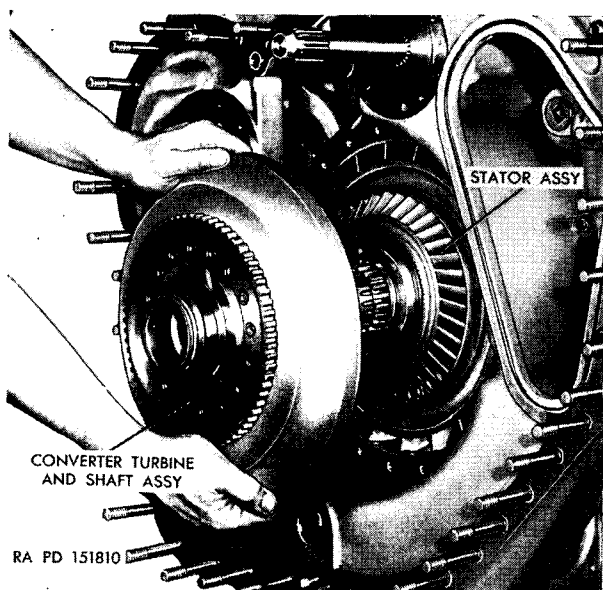
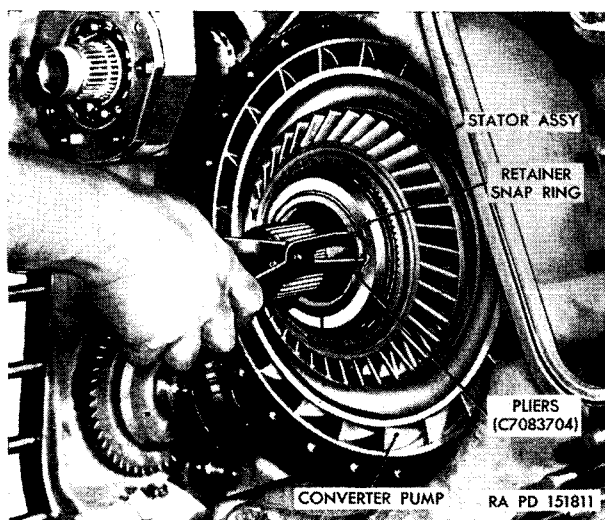

Figure 71. Removing converter turbine and shaft assembly.
Figure 72. Removing or installing stator-retaining snap ring.
- (5) Remove the converter turbine-and-shaft assembly (fig. 71). Using pliers (C7083704), remove the retainer snap ring from the converter ground sleeve (fig. 72).